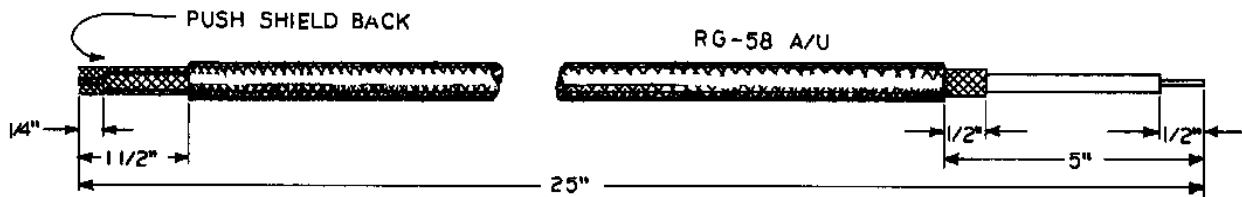

Figure 19
- (✓) Cut a piece of coaxial cable 25" long and prepare as shown in Figure 19. From one end strip away 5" of the outer insulation, then cut the shield off 1/2" from the insulation. Strip and tin 1/2" of the end of the center conductor. At the other end, strip away 1 1/2" of the outer insulation, push back the shield and strip and tin the inner conductor for 1/4".